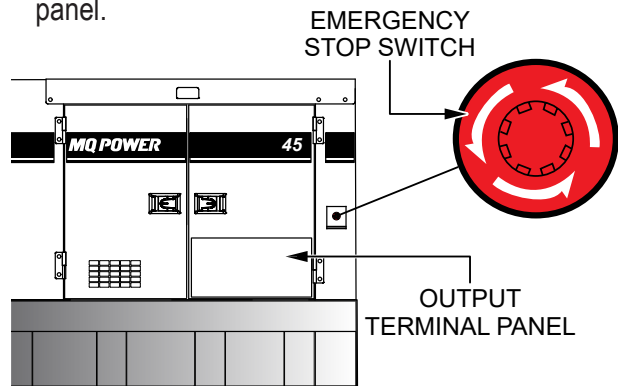

Figure 62. Emergency Stop Switch
1. To stop the engine in the event of an emergency, press the **Emergency Stop** switch (Figure 62), located on the side of the generator next to the output terminal panel.